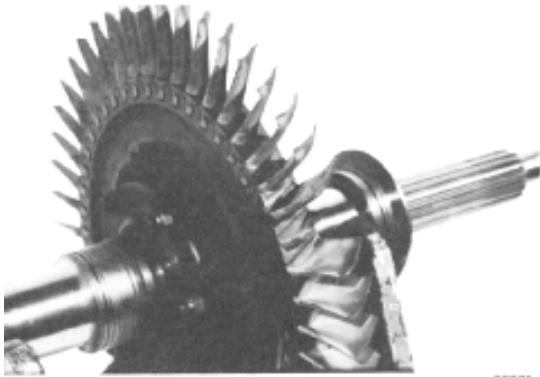

Fig. 15-18 - Stretched Blades That Have Rubbed The Shroud
1. Turbine blades that are stretched and have rubbed the shroud; some of the blades may have pulled apart. Often the turbocharger is frozen and the impeller cannot be rotated, therefore, only a limited view of the blades is available, Fig. 15-18.